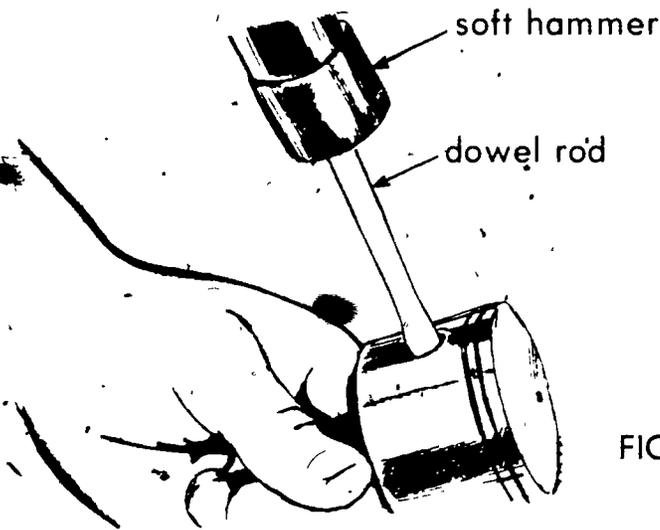

FIGURE 7
2. Drive out piston pin with soft hammer and dowel (Figure 7)